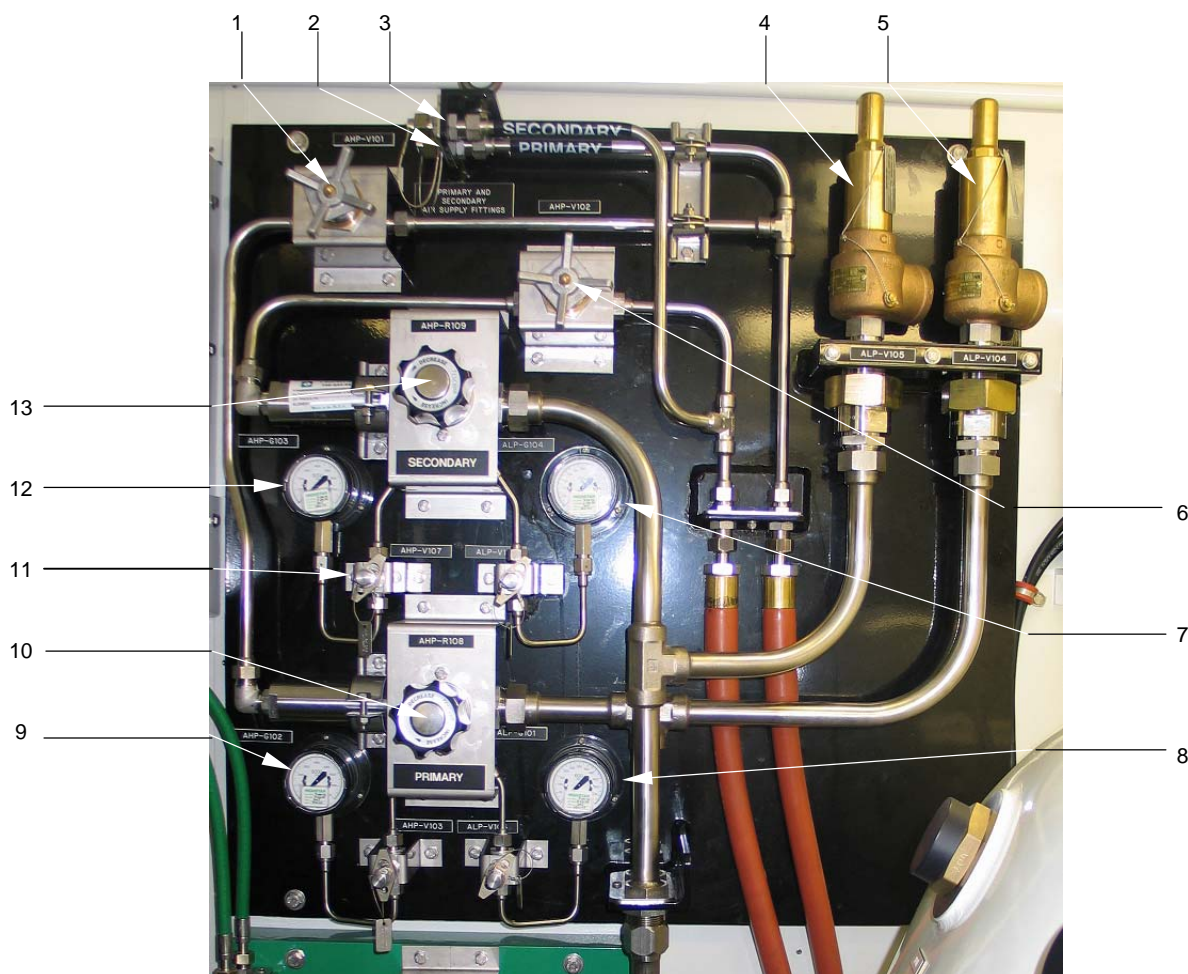

Figure 3-13. HP Air Reducing Station
3-2.6.2 HP Air Reducing Station. The HP Air Reducing Station (see Figure 3-13) allows monitoring and regulation of primary and secondary airflow to the chamber. The HP Air Reducing Station is equipped with a hand-loaded primary air regulator (AHP-R-108) and a hand-loaded secondary air regulator (AHP-R-109).
3-2.6.2.1 Primary and Secondary HP Air Supply Valves. These 1/2" globe valves are used to isolate the primary and secondary HP air sources from the HP Air Reducing Station. In Figure 3-13, item 1 (AHP-V-101) is the Primary HP Air Supply Valve and item 6 (AHP-V-102) is the Secondary HP Air Supply Valve.
3-2.6.2.2 Primary and Secondary HP Air Connectors. The HP air connectors are compression style HP air fittings. They connect incoming HP air from the Fly Away Dive System (FADS) III ASRA to the HP Air Reducing Station. In Figure 3-13, item 2 is the Primary HP Air Connector and item 3 is the Secondary HP Air Connector.
3-2.6.2.3 Primary and Secondary LP Air Relief Valves. The relief valves open to relieve a HP condition at the outlet of the HP Air Reducing Station. HP air relieved from these valves is vented to the area surrounding the valve. In Figure 3-13, item 5 (ALP-V-104) is the Primary LP Air Relief Valve and item 4 (ALP-V-105) is the Secondary LP Air Relief Valve.
3-2.6.2.5 Primary and Secondary HP Air Supply Gauges. These gauges indicate the pressure at the inlet side of the HP air regulator valves. These gauges will reflect the pressure at the FADS III air bank or other supply system during operation of the recompression chamber. In Figure 3-13, item 9 (AHP-G-102) is the Primary HP Air Supply Gauge and item 12 (AHP-G-103) is the Secondary HP Air Supply Gauge.
3-2.6.2.6 Primary and Secondary HP Air Regulators. The air pressure regulators are spring-loaded, diaphragm-controlled, air pressure control devices. Once set, the regulator will maintain a constant outlet pressure over a wide range of inlet pressures and outlet flow rates. In Figure 3-13, item 10 (AHP-R-108) is the Primary HP Air Regulator and item 13 (AHP-R-109) is the Secondary HP Air Regulator.
3-2.6.2.7 HP Air Reducing Station Gauge Isolation Valves. The gauge isolation valves are mounted in the supply piping to each gauge in the system. These valves are designed to act as stop valves or as test fittings to allow for testing the gauge in place. In Figure 3-13, item 11, the Secondary HP Air Gauge Isolation Valve (AHP-V-107), is a representative example. See Figure 2-6 for the names and locations of all HP Air Reducing Station gauge isolation valves.